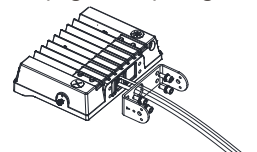
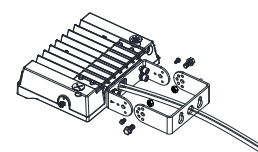

figure 6.3
figure 6.4
Step 2: Run the glue wire through the hole in the mounting bracket and secure the fixture and bracket with an inner hexagon screw (Watch out not to scratch the glue wire) (Figure 6.3), Tighten the other bracket with screws. (figure 6.4)